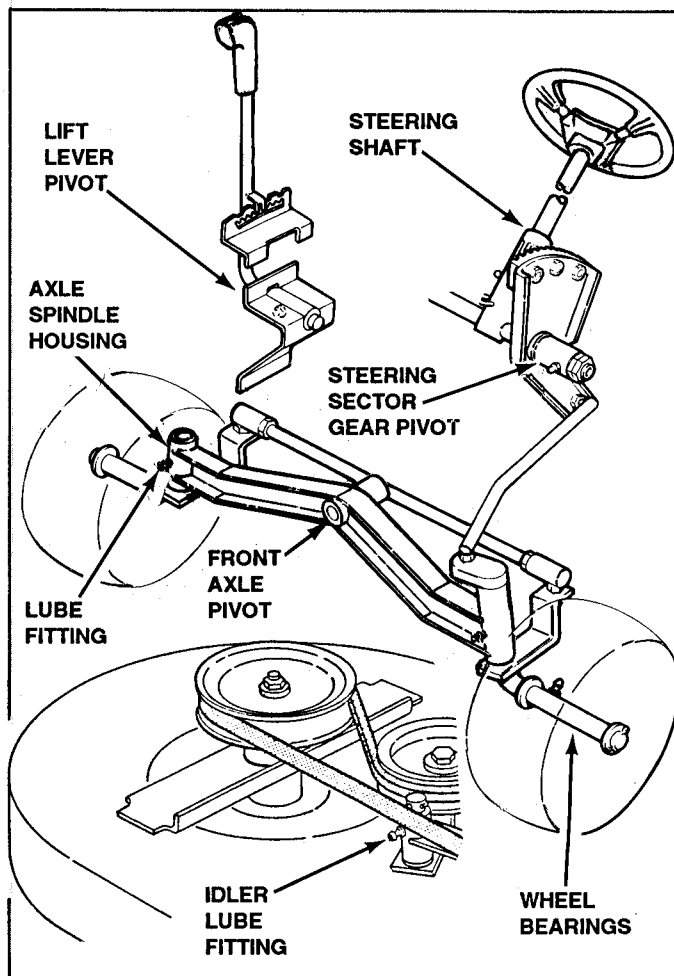

Figure 14: LUBRICATION POINT SCHEMATIC
FRONT AXLE PIVOT & SPINDLES: Lubricate spindle lube fittings on each end of axle and the center pivot lube fitting on underside of the front axle. See Figure 14.
2. Steering sector gear pivot under gas tank. See Figure 14.